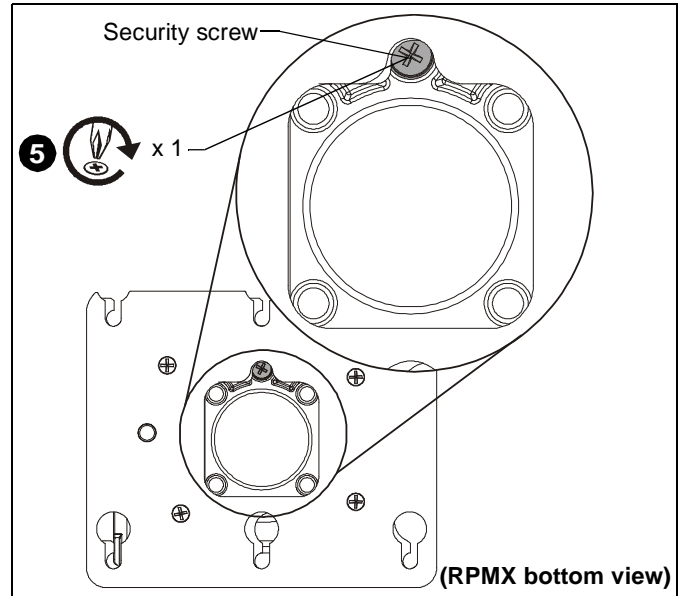

Figure 5
5. Turn security screw (access from bottom of RPME) (See Figure 5) using a Phillips screwdriver until set screw cannot be seen through set screw access hole in RPME. (See Figure 5)